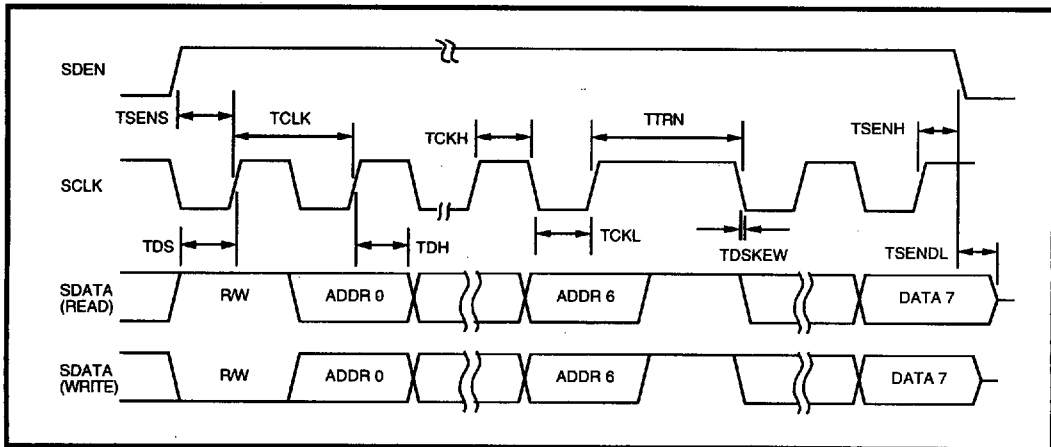

FIGURE 4 : Serial Port Timing Information
All transfers are shifted into the serial port LSB first. The first byte of the transfer is address and instruction information. The LSB of this byte is the R/W bit which determines if the transfer is a read (1) or a write (0). The remaining 7-bits determine the internal register to be accessed. Table 3 provides register mapping information. The second byte contains the programming data. In serial port read mode (R/W=1) the SSI 33P3700 will output the register contents of the selected address. In serial port write mode the device will load the selected register with data presented on the SDATA pin. At initial power-up, the contents of the internal registers will be in an unknown state and must be programmed prior to operation. During power down modes, the serial port remains active and register programming data is retained. Detailed timing information is provided in Figure 4.